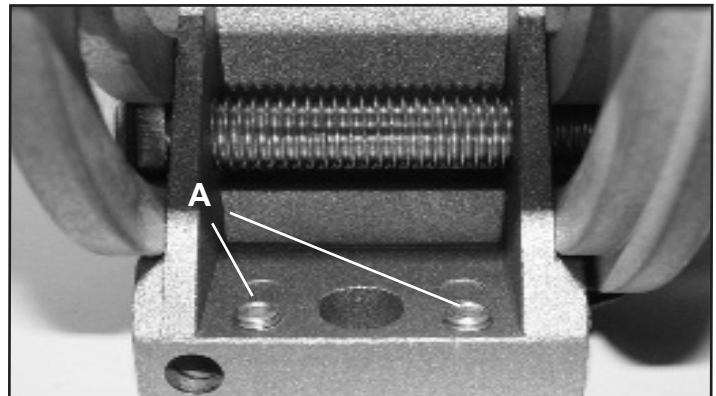

FIG. 12
2. The table may also be set at 90° to the back of the saw blade by adjusting the four trunnion micro adjustment screws, FIG. 12, A. First, slightly loosen the 2 bolts (#73B) that fasten the trunnion to the frame. Using the 3mm hex wrench, turn the applicable trunnion micro adjusting screws (#24B). Turning the screws clockwise will raise the trunnion; turning them counterclockwise will lower. Check table for 90° and one set, retighten the bolts (#73B).
NOTE: FIG. 12, the trunnion has been removed from bandsaw for clarity. Micro adjusting screws are raised to exaggerate location. Only two of the four micro adjusting screws are shown.